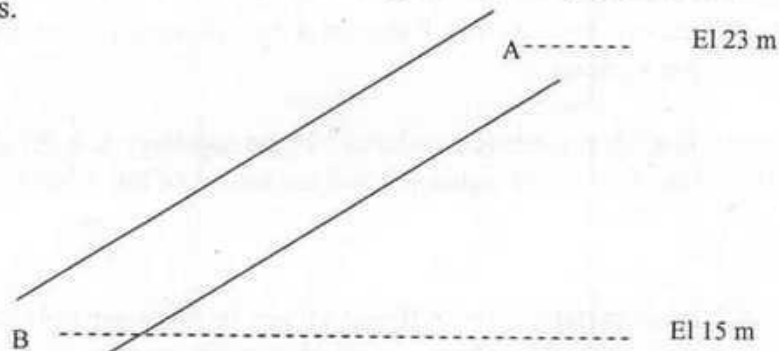

Figure 1
(c) A pipe AB (figure 1) is of uniform diameter. The pressure at A is  $170 \text{ kN/m}^2$  and at B is  $280 \text{ kN/m}^2$ . If a crude oil ( $S = 0.90$ ) is flowing through the pipe, determine the direction of flow and head loss. (9)